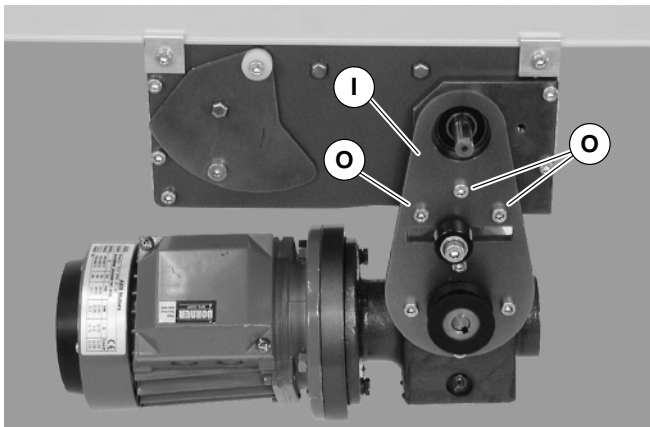

Figure 7
4. Attach mount assembly (I of Figure 7) with mounting screws (O). Install long screws on bottom. Tighten screws to 80 in-lb (9 Nm.).